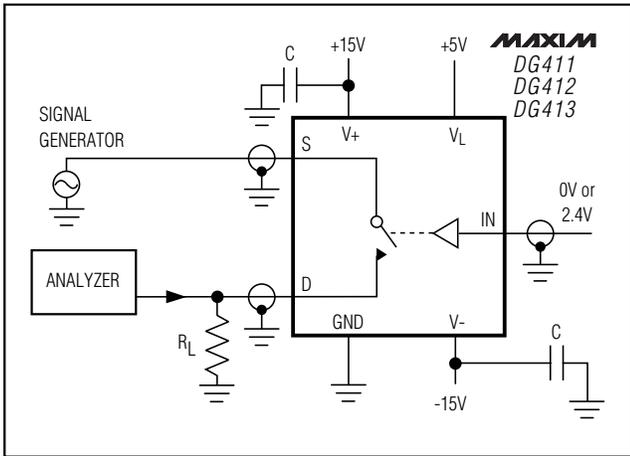

Figure 5. Off-Isolation
**Note 5:** Off Isolation =  $20 \log (V_D/V_S)$ ,  $V_D$  = output,  $V_S$  = input to off switch. See Figure 5.